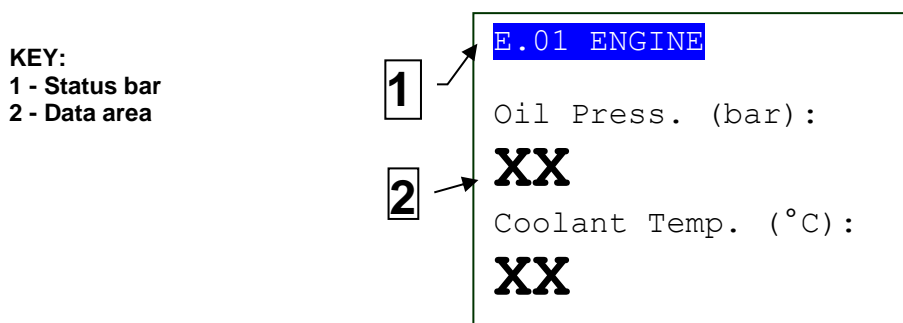

Fig. 4 – Display areas
7.5.4 Display area layout (ref. to fig. 4)